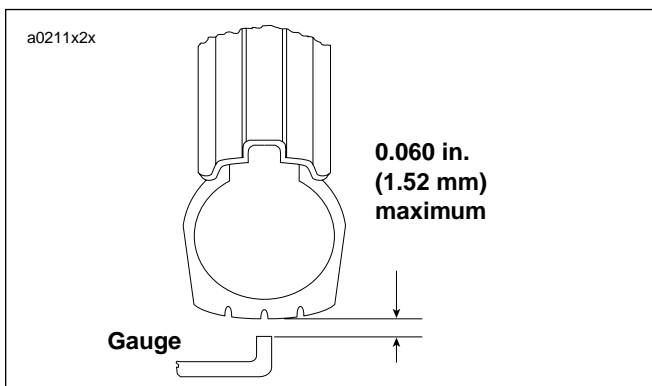

**Figure 2-24. Checking Tire Lateral Runout**
1. See Figure 2-24. Turn wheel on axle and measure amount of displacement from a fixed point to tire side-wall.